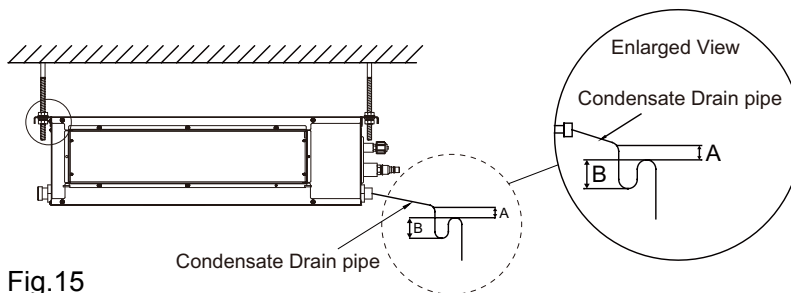

Fig.15
2. Be sure there is no crack or leak on the drain hose to avoid the formation of air pocket. (Fig.15)